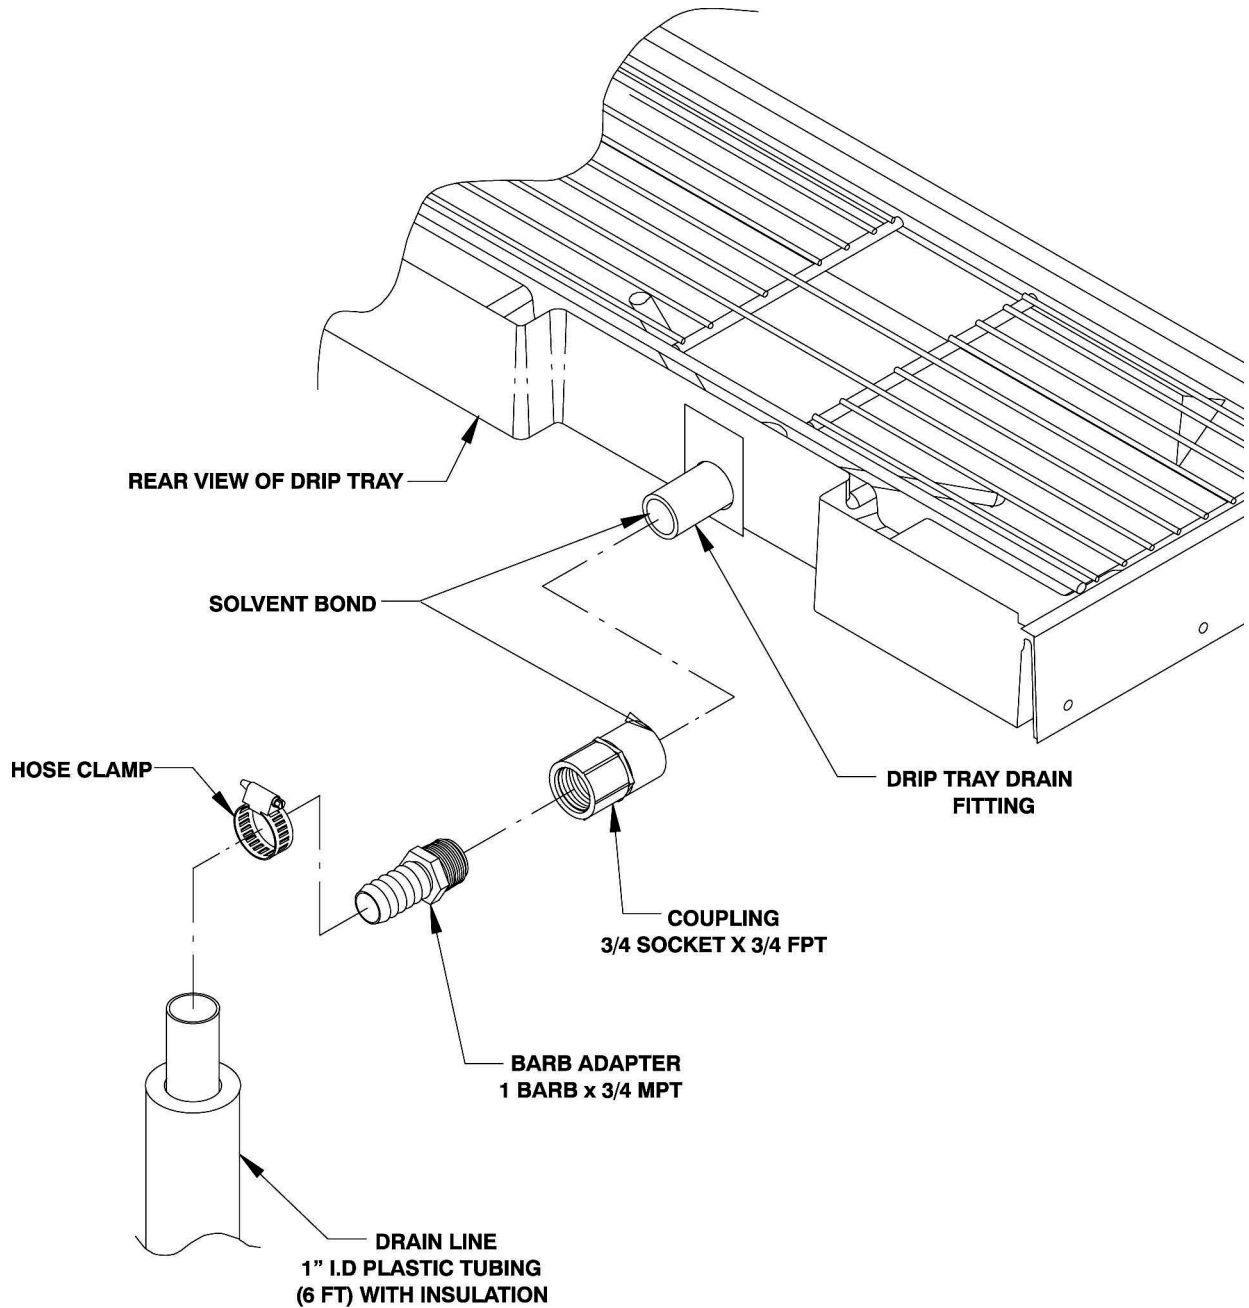

Figure 2 Drip Tray Drain Assembly
3. DRIP TRAY DRAIN ASSEMBLY (see Figure 2): Route the drain tube to an open drain with the end of the tube above the "flood" level of the drain. Use the tubing, fittings, clamps, and insulation provided with the Dispenser to assemble the drain. The completed drain line *must* pitch continuously downward and contain no "traps" or improper drainage will result.
Refer Figure 2 to install the drip tray to the drain line.